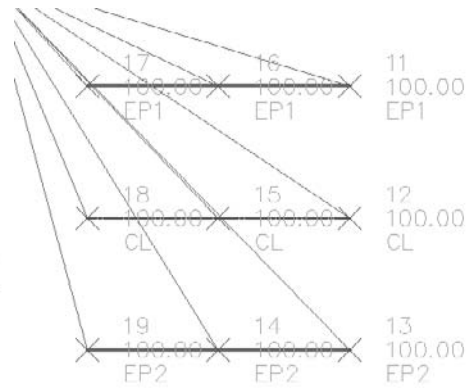

Figure 4.17
8. Zoom in on the edge-of-pavement and road-centerline figures. Note that the figure prefix database assigned the appropriate figure style based on the EP and CL codes, as shown in Figure 4.17.